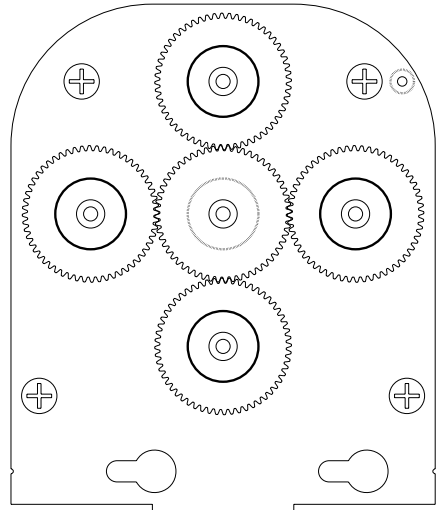

Figure 2.
- To make **4-stranded** ropes use all outer axles (*fig. 2*).